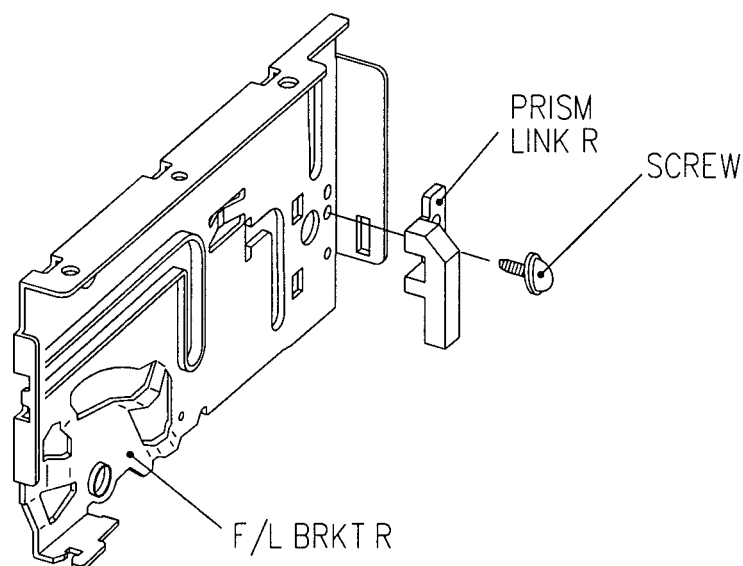

Fig.3-3 DISASSEMBLY OF THE F/L BRKT R
- c. Remove one screw holding the PRISM LINK R and remove the PRISM LINK R from the F/L BRACKET R. (Fig. 3-3)